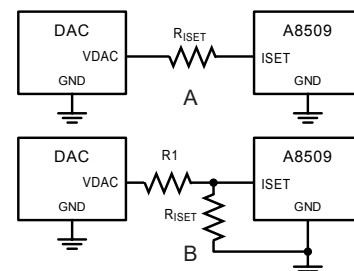

Figure 17. Typical application simplified diagram of voltage LED current control using a DAC to control LED current.
The A8509 can also be dimmed by using an external DAC or other voltage source applied either directly to the ground side of the R_{ISET} resistor or through an external resistor to the ISET pin (see figure 17). The ISET current can be varied in the range between 34 μA and 130 μA.
- For a single-resistor configuration (panel A of figure 17), the ISET current is controlled by the following formula:
- For a dual-resistor configuration (panel B of figure 17), the ISET current is controlled by the following formula: